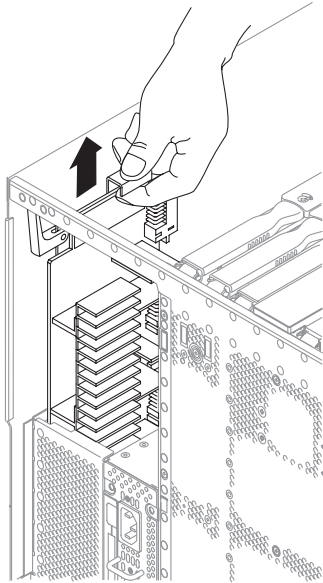

FIGURE 7-6 Removing the Power Distribution Board
The power distribution board is located in the system. It is accessible from the rear of the system after you remove the IB_SSC assembly (FIGURE 7-6).
11. Pull the board out of the system using the metal handle (FIGURE 7-6). Place the board on an ESD mat.